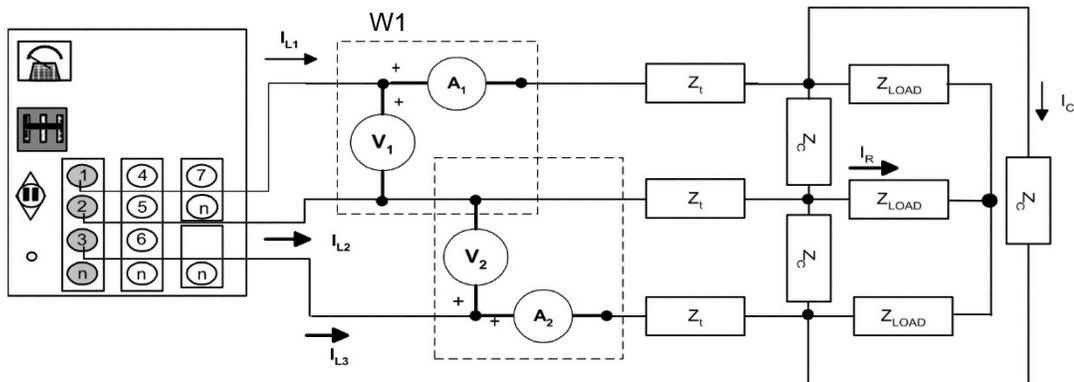

FIGURE 3.6
- 5) Now, connect an inductive load ($Z_L = 100\Omega$) in series with the parallel delta-wye load as shown in Figure 3.6. For this connection **V in** to line **50Vac**: